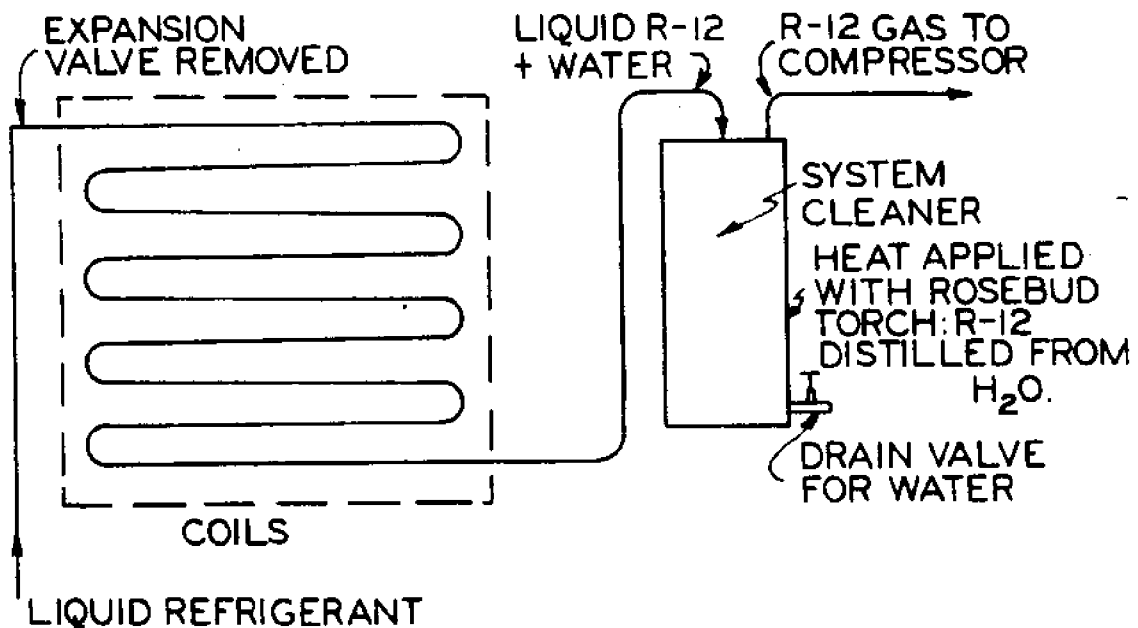

FIGURE 20
5. A system cleaner is essentially a distiller. One type commonly used is made by York, is about 10 inches in diameter and 4 feet high, and contains screening and about 6 pounds of chemicals--either silica gel or activated alumina. Hook it up between the coils and compressor according to the diagram in Figure 20.